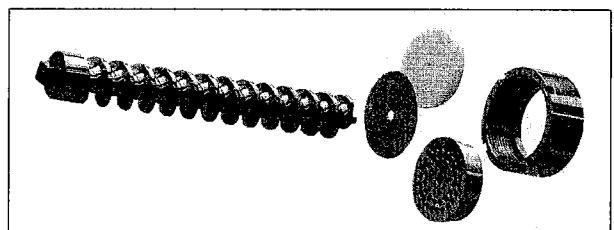

Fig. 17
- disassemble and wash the movable parts (**Fig. 17 - 18**) and clean the machine (see Unit 6 CLEANING page 45);